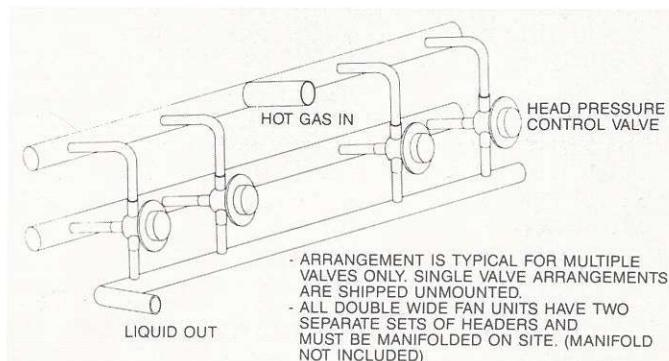

FIGURE 6: 4 valve arrangement shown. Valve quantity may vary from 2 to 10.
- (1) Valve Capacity is based on net refrigeration effect at the evaporator.
- (2) See Figure 6 for pipe arrangement of multiple valve systems.
- (3) Pressure difference between discharge line and receiver.
- (4) When ordering a flooding control package, specify refrigeration type by adding the refrigerant code to the valve model number. R-22 = 2, 134a = 1, R-502 = 2 (Example: C-2).